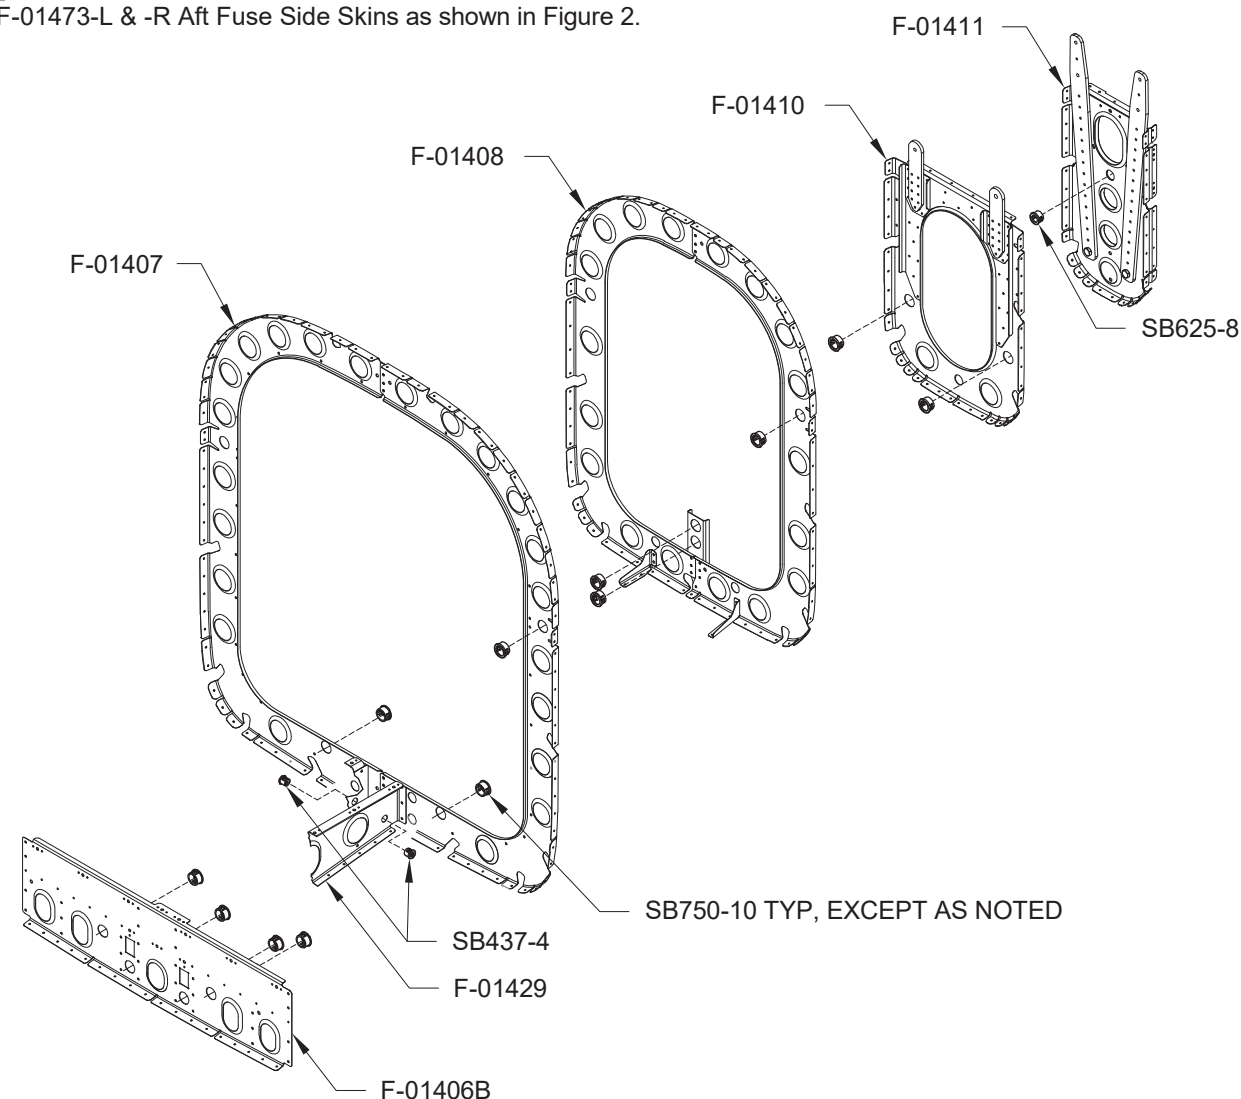

FIGURE 1: SNAP BUSHING INSTALLTATION
Step 1: Follow the 'Installing the Static Air System' instructions included in the Static Air Kit to install the Left and Right Static Sources into the F-01473-L & -R Side Skins as shown in Figure 1 and on Page 10-19, Figure 1.